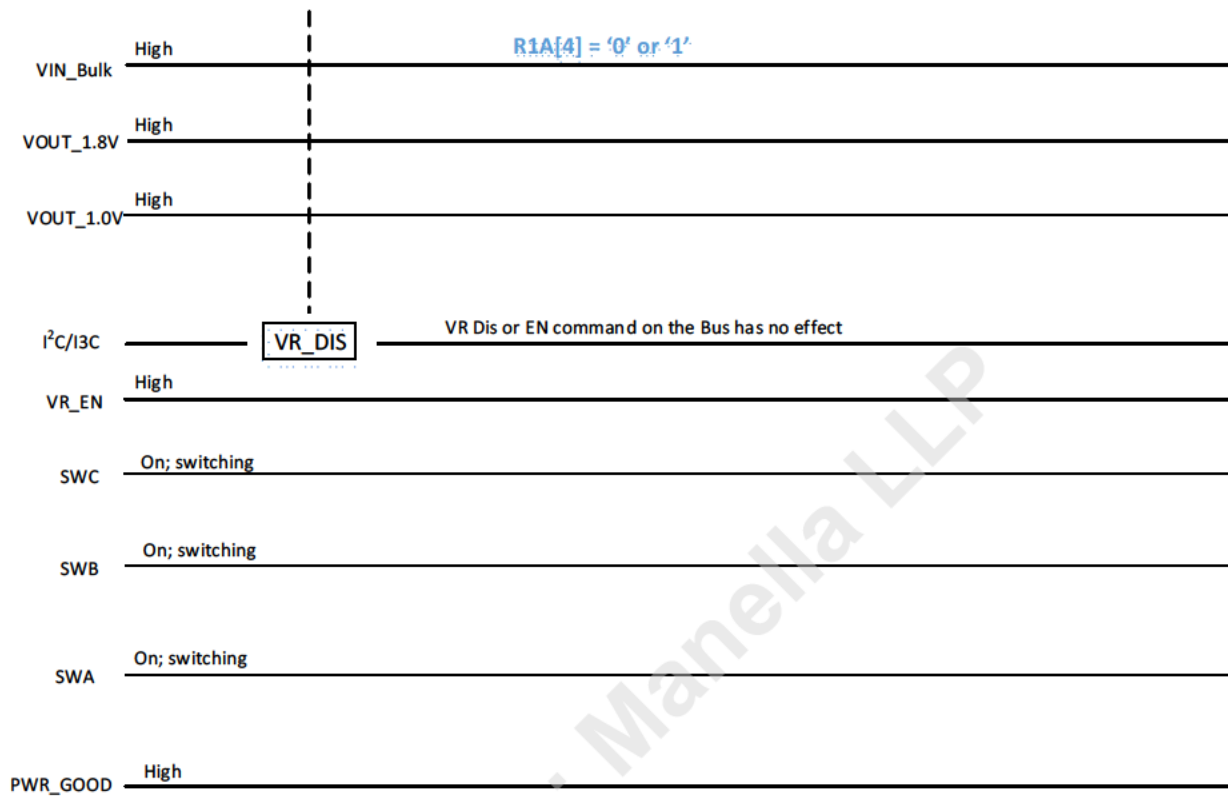

Figure 31 — VR_DIS or VR_EN CMD on Bus; R1A[4]=x; Secure Mode; PWR_GOOD Signal
- a. Note that VR Disable or Enable command on a I²C/I³C Basic Bus (i.e., Table 138, "Register 0x32" [7] = '0' or '1') has no effect on the PMIC. Also, configuring one or more bits in Table 135, "Register 0x2F" [6,4:3] to '0' has no effect on the PMIC. See Figure 31.
- a. Note that VR Disable or Enable command on an I²C/I³C Basic Bus (i.e., Table 138, "Register 0x32" [7] = '0' or '1') has no effect on the PMIC. Also, configuring one or more bits in Table 135, "Register 0x2F" [6,4:3] to '0' has no effect on the PMIC. See Figure 31.